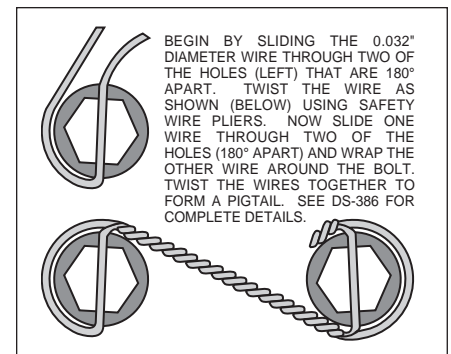

Figure 3. Safety Wire Diagram
- With the larger I.D. side of the rotor (6) facing away from the hat (7), bolt rotor (6) to the hat (7) through the backside of the rotor using washers (8) and bolts (9). Using an alternating sequence, apply red *Loctite*® 271 to the threads and torque bolts to 155 in-lb. For an added measure of security, the bolts may be safety wired using standard 0.032 inch diameter stainless steel safety wire as shown in Figure 3. Please refer to Wilwood's data sheet DS-386 (available at www.wilwood.com/Pdf/DataSheets/ds386.pdf) for complete safety wire installation instructions. Slide the rotor/hat assembly onto the spindle. Check to be sure the hat seats squarely against the hub. Install a couple of lug nuts (finger tighten) to keep the rotor/hat assembly in place while continuing with the installation.
- Install spacer (14) and one washer (15) over each pre-installed stud (13) on the radial mount bracket (1). Slide the caliper (10) in place over the studs and rotor, then install the washer (12) and lock nut (11) to hold the caliper in place. The caliper bleed screws should be pointing up. Snug the lock nuts (11) and check that the rotor (6) is centered in the caliper (10). Add or subtract .029" shims (3) as necessary between the caliper mounting bracket (1) and the spindle to center the caliper (10).
- Remove the caliper center bridge pad retainer bolt, nut, and tube from the caliper. Slide the brake pads (16) into place. They should install easily without interference. Check that the outside radius of the brake pad is aligned with the outside diameter radius of the rotor face. Add or subtract shims (15) between the caliper (10) and mount bracket (1) to gain the proper alignment. Reinstall the center bridge pad retainer tube, bolt, and lock nut. The lock nut should be snug without play in the bolt or tube. Be cautious not to over tighten.
- Once all clearances have been checked, remove the wheel, caliper, hat, and rotor from the spindle and hub. Secure the caliper mounting bracket (1) to the spindle with bolt (2), washers (3), lock washer (4) and nut (5) as done previously using red *Loctite*® 271. Torque bolt (2) to 75 ft-lb. Reinstall the hat and rotor assembly and again using two lug nuts (finger tighten) to hold it in place. Lubricate caliper mounting studs and nuts with lightweight oil, reinstall the caliper, torque the caliper nuts (11) to 28 ft-lb.